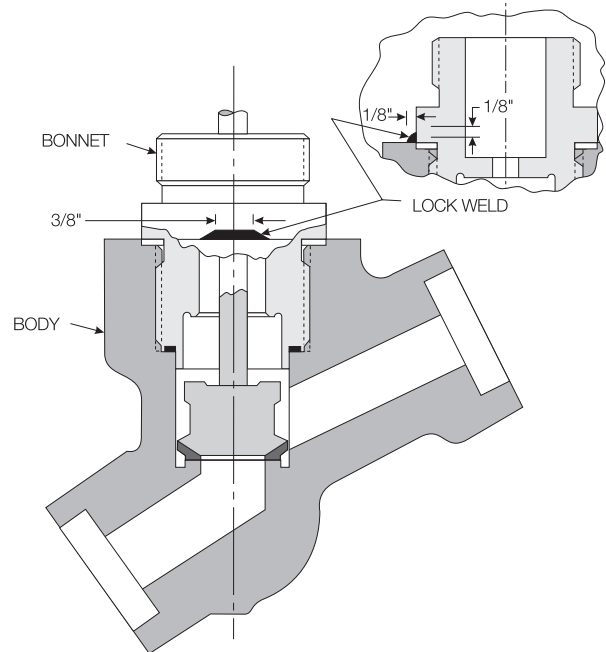
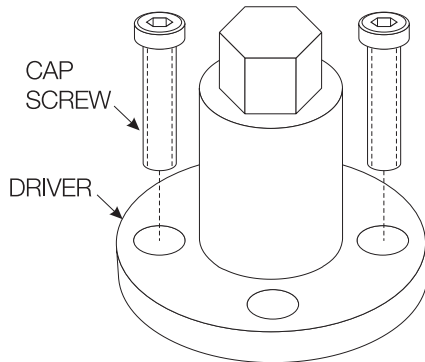

FIGURE 11—Bonnet Lock Weld
FIGURE 16—Bonnet Removal Tool
For valves with a bonnet lock weld, use a disc grinder, or other suitable tool, and grind off the weld. (See Figure 11.) For valves with a bonnet seal weld, cut through the entire circumference of the weld, leaving a minimum gap between the body and bonnet, using an abrasive cut off wheel. (See Figure 11A.)
Grind or cut off the bonnet lock weld, or seal weld when applicable (again, see Figures 11 and 11A). 1-1/4" and 1-1/2" bonnets are most easily removed with a special tool, which consists of a driver and a lock ring. (See Figure 14)
Grind or cut off the bonnet lock weld, or seal weld when applicable (again, see Figures 11 and 11A). The 2" and larger valve bonnet is most easily removed using a special tool (See Figure 16) which consists of a driver and two lock bolts.
- For valves having a bonnet lock weld (Dash 1 design), tack-weld the bonnet to the body as shown in Figure 11.